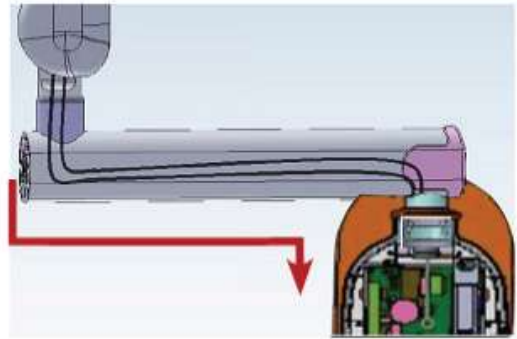

Figure 33
- Route the cable into straight arm till it comes inside the base unit by pulling the guide wire as shown in Figure 33.